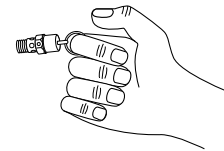

Figure 4
3. Pull ring on safety valve and allow the ring to snap back to normal position. While system is under pressure, this valve automatically releases air if the line pressure exceeds the preset maximum. (Figure 4)